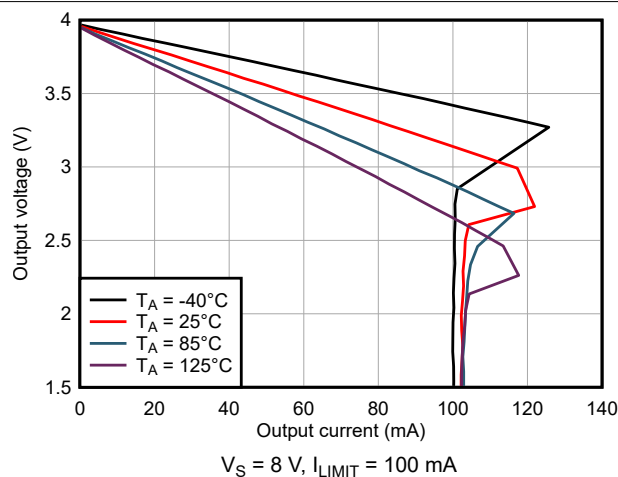

FIG 6-19. Output Voltage vs Output Sourcing Current
(3) Proper output swing headroom is necessary to maintain current limit accuracy; see 図 6-19 to 図 6-34.